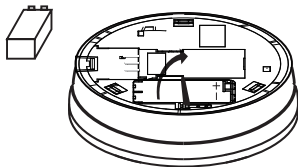

Figure 5
- Alarm will not function without a properly installed battery. It is equipped with a battery lockout feature which prevents the battery door from closing if a battery is not installed correctly (See Figure 5).